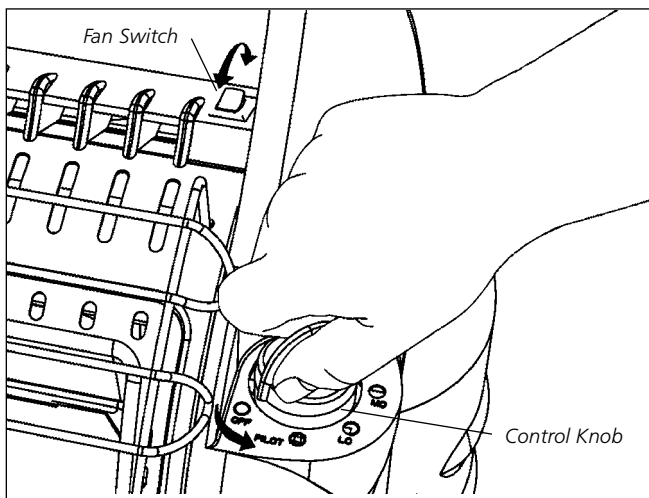

Figure1
- Make sure five-position Control Knob is in "OFF" position; see Figure 1.
- For added heat circulation turn red fan switch to on. The fan switch is located just left of control knob side handel support. See Figure 1.
- Make sure five-position control knob is in "OFF" position; see Figure 1, at left.